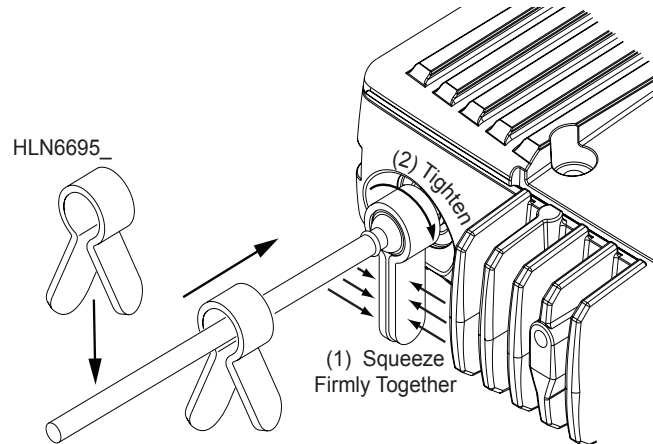

Figure 2-24. Mini-UHF Connector Tool (as shown on mid-power)
9. Slip the mini-UHF connector tool over the coaxial cable, using the gap between the tool's legs (see Figure 2-24). Then, slide the tool up onto the plug's knurled collar. Squeeze the two straight legs of the tool firmly together between your thumb and index finger and turn clockwise (as shown) to tighten the collar. It should take 1/4 turn or less. When you feel the tool slipping on the collar, the connection has been properly tightened. The tool can also be used to loosen a tight collar.